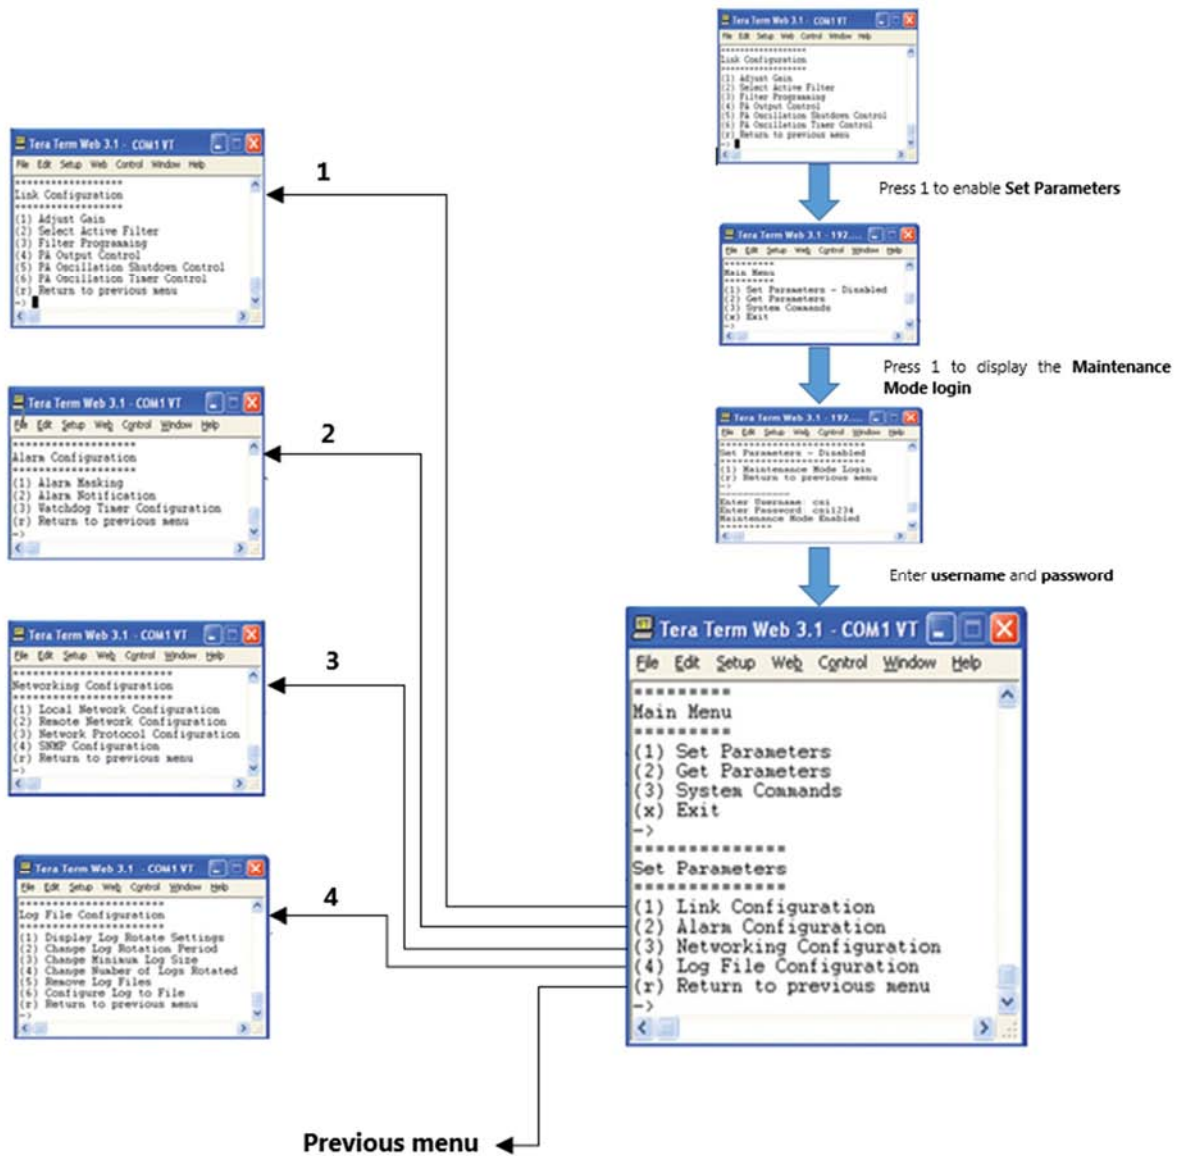

Figure 4-7: TMI Menus
6. Enter a username and password and press the **Enter** key. The TMI Main Menu displays, Figure 4-7.